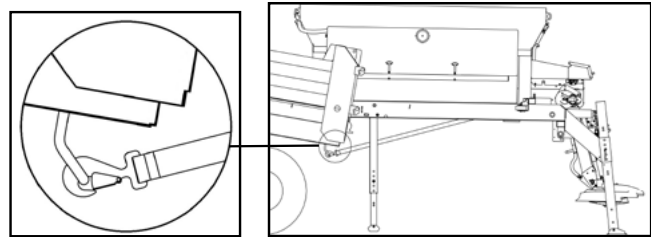

Figure 4 - Attach Safety Strap
4. Attach safety strap to chassis and tighten so strap is taut as shown in Figure 4. Front legs remain locked.